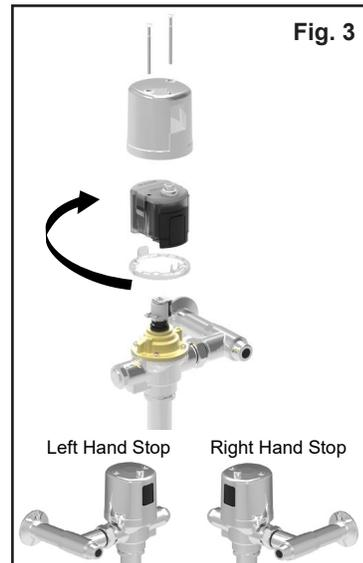

Fig. 3
- Remove the cover by taking out the two cover screws. See Figure 3.